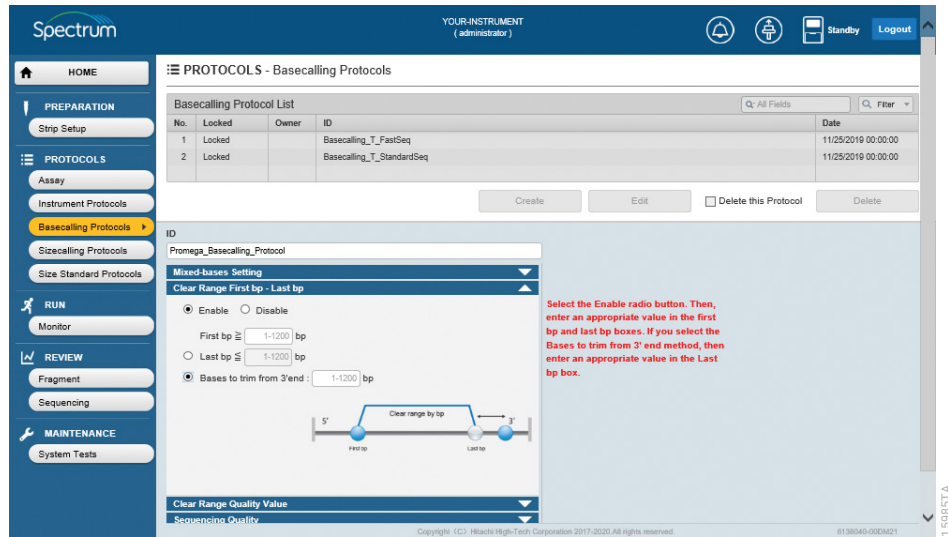

Figure 37. Clear Range First bp–Last bp: Bases to trim from 3' end.
- Alternatively, select the **Bases to trim from 3' end** radio button. When this is enabled, the first bp position to be considered for analysis is set by entering the 5' bp position in the First bp field. The software then trims the number of bases specified in the **Bases to trim from 3' end** field from the 3' end of the sequence to determine the last bp to consider for analysis (Figure 37). Under this setting, the last base considered will depend on the length of sequence obtained.